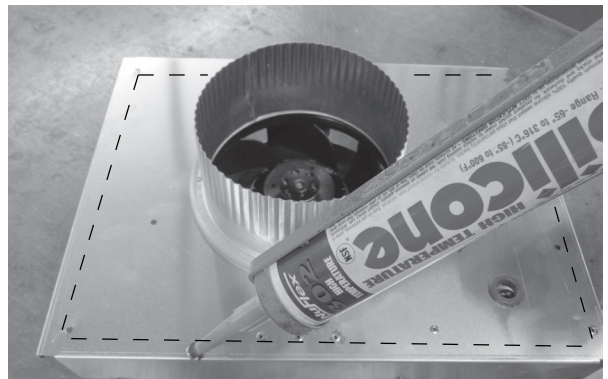

Figure 2.14
13. Apply a bead of silicone (with a minimum of 300° F continuous exposure rating) around the entire metal flange of the HEAT-OUT-GAS. See Figure 2.14. Align with HEAT-OUT-BEK as shown in Figure 2.12. Ensure cap is level and square, then secure HEAT-OUT-GAS to HEAT-OUT-BEK as shown in Figure 2.13.
15. Place a bead of silicone (with a minimum of 300° F continuous exposure rating) on the back side of the mounting flange for the heat-out. See Figure 2.14.